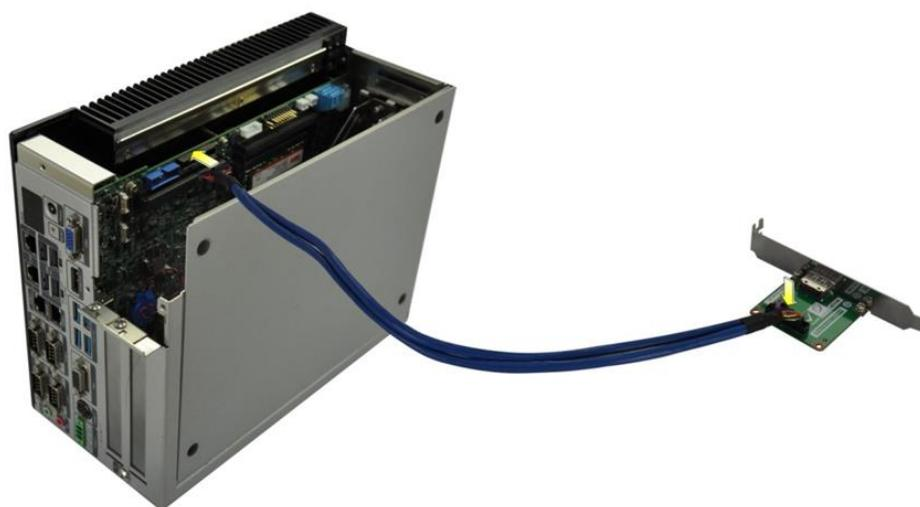

Figure 3-24: iDP Module Installation
Step 4: Connect the iDP module to the DisplayPort connector on the motherboard. See **Figure 3-24**.